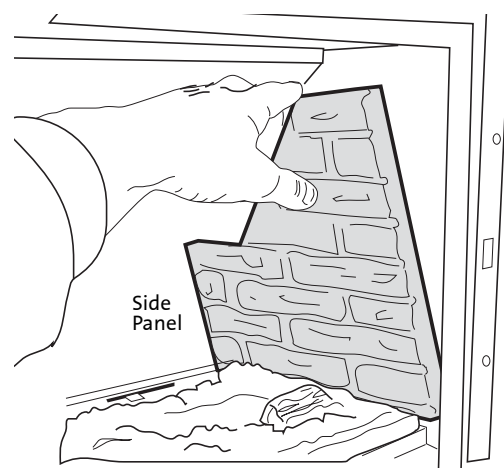

Figure 20. Install the Side Panel.
- 4. Install the Side Panels.** Engage the bottom edge of each side panel between the Logset Base and the firebox wall and push the panel forward against the front lip of the firebox opening. See Fig.20.